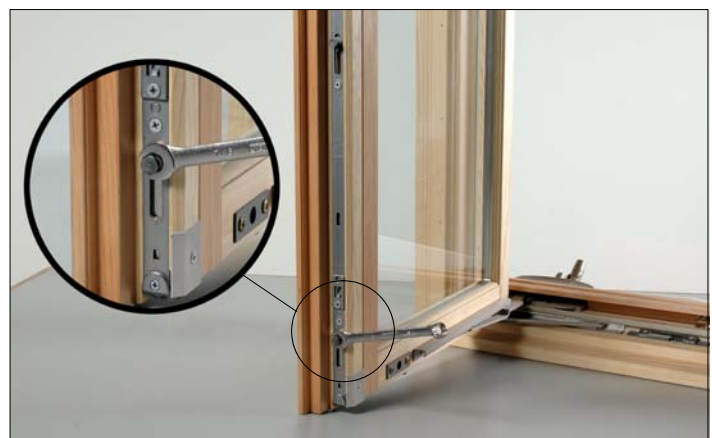

Figure 5
1. To make the sash close tighter along the astragal, use a 7/16" adjustment wrench to move the adjustment mark on the locking cams toward the astragal. To make the sash lock easier, move the adjustment mark on the locking cams away from the astragal. There will be four to five roller cams located on the top, bottom, and meeting stile of the primary sash depending on unit size. See figure 5.